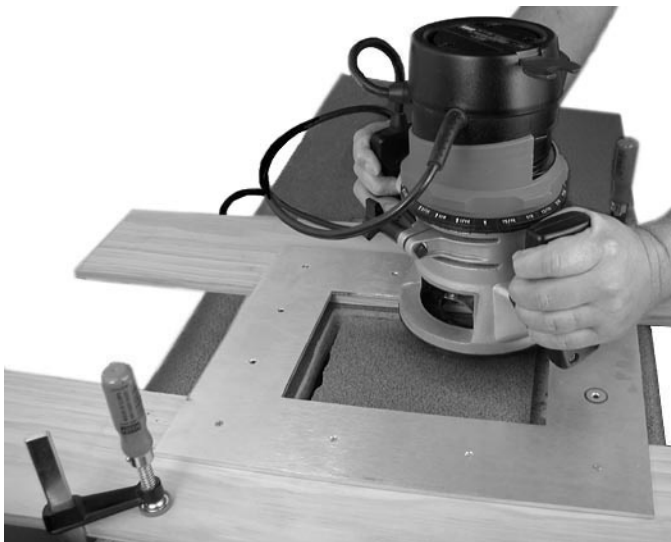

Figure 6. Cutting the Opening with a Router (Example)
3. Once the template assembly is positioned properly, secure the assembly to the table with clamps (see **figure 6** on the next page).
4. Using a router with a 5/8 inch (or 16 mm) outside diameter guide bushing and a 1/2 inch (or 12 mm or 12.7 mm) diameter straight router bit, carefully cut the opening in the table surface (see figure 6).